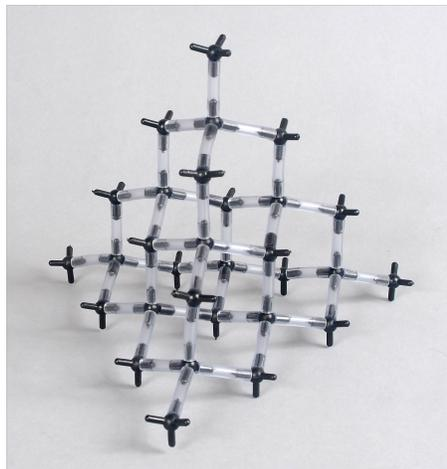

Fig. 11 Layer C lowered onto layer B.
10. Positioning Layer C on top of Layer B, and attaching to Layer C should result in the structure shown in Fig. 11.